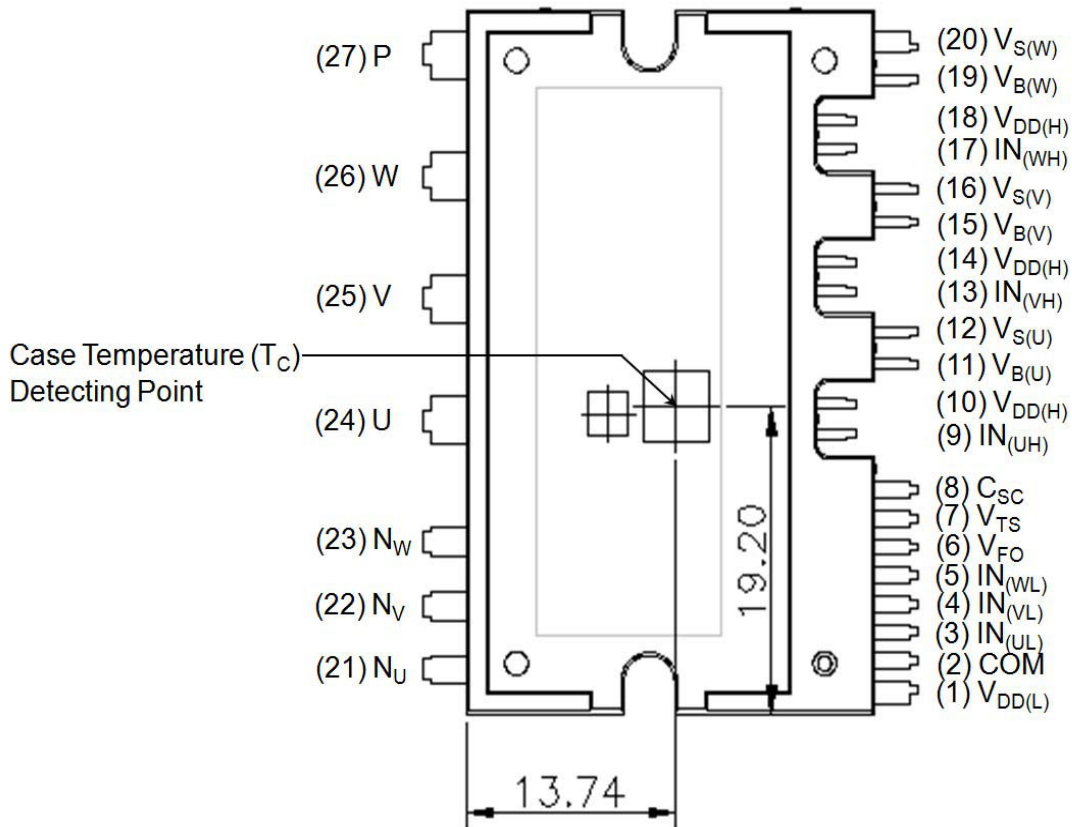

Figure 1. Top View
5. For the measurement point of case temperature (TC), please refer to Figure 1.